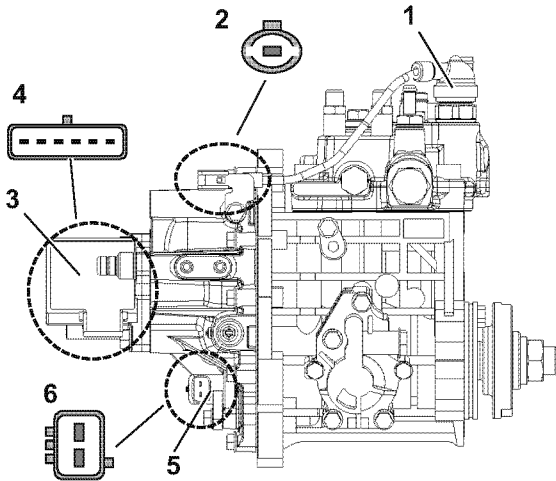

Figure 7-1
- When the cold start device is activated, you may notice a slight increase in the exhaust smoke of the engine during engine warm-up. Electronically controlled engines use a Cold Start Device (CSD) that consists of a fuel injection pump complete with a solenoid valve (Figure 7-1, (1)).
Electronically controlled engines are equipped with an electronically controlled governor called "Eco Governor". Combined with the rack actuator (Figure 7-1, (3)), engine speed sensor (Figure 7-1, (5)), and other parts, the electronically controlled governor communicates with the engine controller (E-ECU), whereby the engine speed and fuel injection rate are controlled.